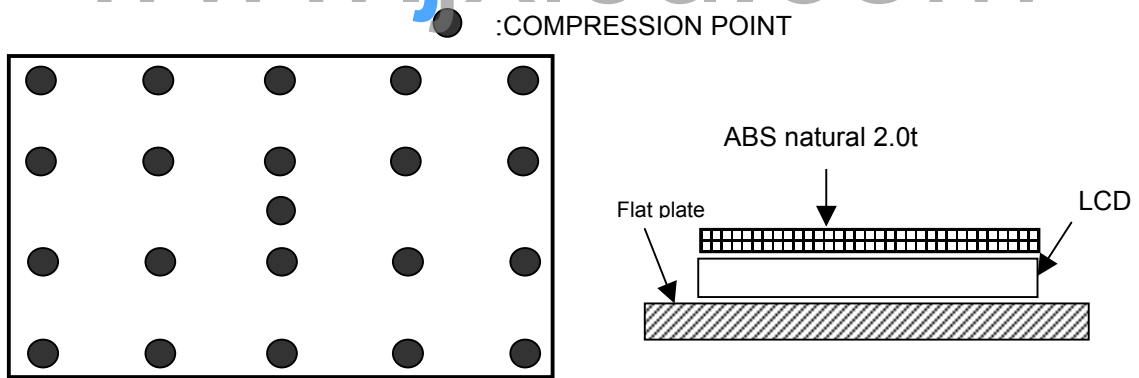

Fig 1-3-2
(2) The compression condition of rear side
- (a) Compression point: 21 points (refer to Fig 1-3-2)